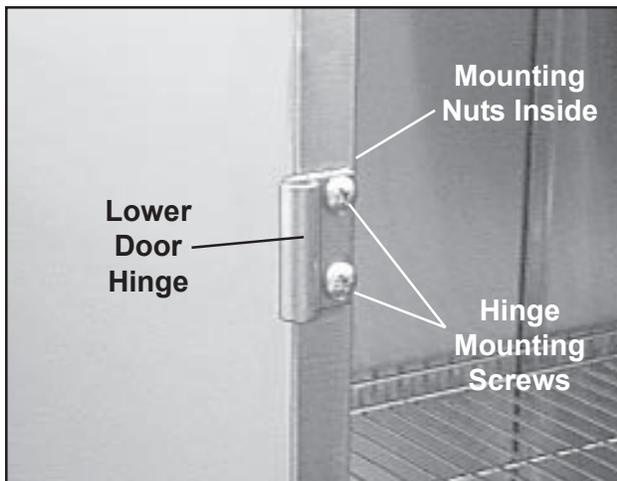

Figure 26. Lower Door Hinge and Mounting Screws and Nuts
2. With a Phillips screwdriver and a socket wrench with a 7/16 in. socket on a 3 in. extension, remove the two hinge mounting screws and nuts (Figure 26), and remove the hinge.